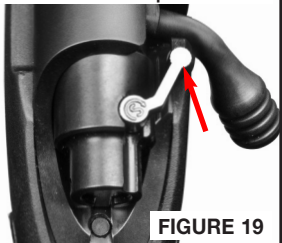

FIGURE 19
- Fully forward in the - “F” FIRE position (FIGURE 19) the rifle can be fired by pulling rearward on the trigger.